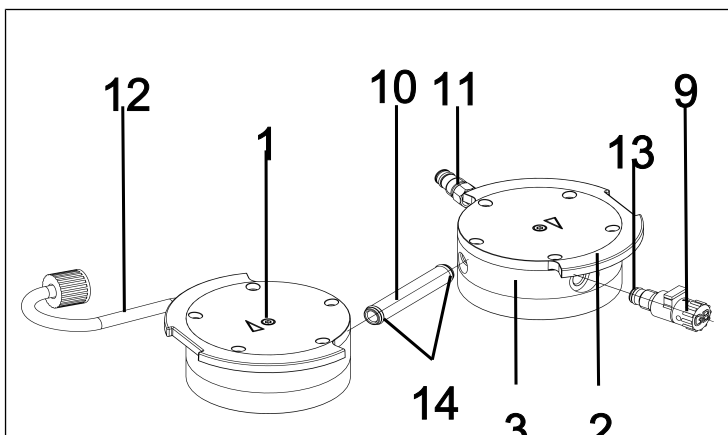

Fig.15: Change O-rings
2. Pull the connection tube (10/Fig. 15) out of the head plate (3).
3. Replace the two O-rings (14) on the connection tube (10/ Fig. 15).
6. Unscrew the gas ballast (**9/Fig. 15**) from the head plate (**3**).
7. Replace the O-ring (**13**) on the gas ballast (**9/Fig. 15**).
8. Screw the gas ballast (**9/Fig. 15**) into the corresponding head plate (**3**) as far as it will go. Then turn it back again until the surface is oriented upwards.
7. Insert the connection tube (**10/Fig. 15**) back into both head plates (**3**).